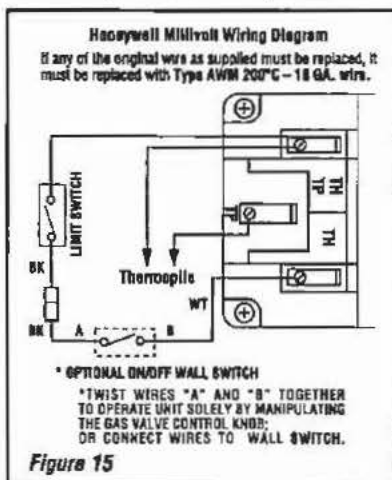

Figure 15
A. Honeywell Millivolt Wiring (See *Figure 15*)—
4. Alternatively, the appliance may be operated without the use of the controls indicated in step 1, solely by manipulating the gas valve control knob. In order to use this method, twist the free ends of the two conductor wire (located on top of the unit) together as shown in *Figure 15*.